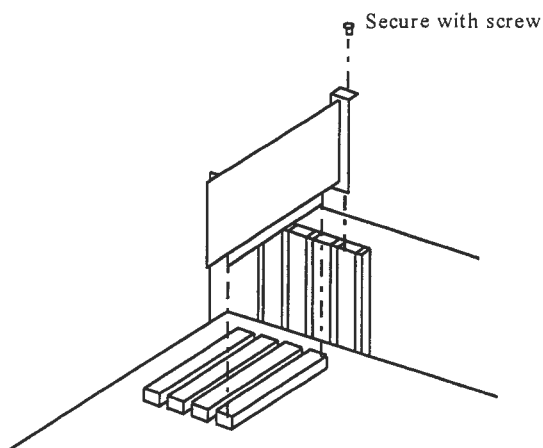

Figure 11: Installing the Interface Board (PCI Bus)
2. Install the PCI card in your computer. Be sure to secure the card with a screw as shown in Figure 11.